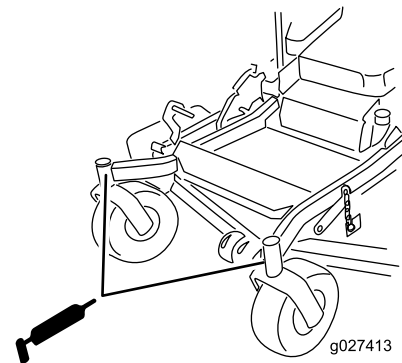

Figure 41
10. Install the hex plug and dust cap (Figure 41).